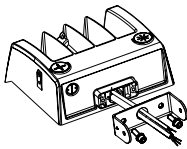

FIGURE 3.1
1. Take the fixture out of package (FIG 3.1)